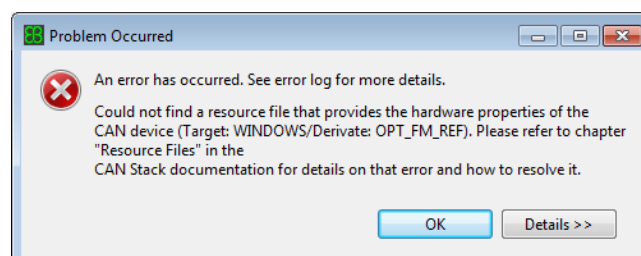

Figure 4.1. Missing resource file error message
The CAN Buffer Assignment Editor and the CAN Bit Timing Editor stop with the error message displayed in Figure 4.1, “Missing resource file error message” if no resource file could be found for the target and derivative of your `Can` module.
- ▶ *No resource file available for the derivative:* If your `Can` module only supports one derivative (i.e. it does not support sub-derivatives) and the error message in Figure 4.1, “Missing resource file error message” is displayed, this means that your `Can` module was shipped without any resource file.